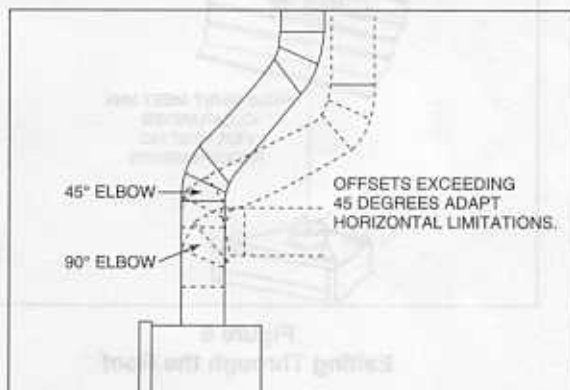

Figure 5
3. Using Elbows. Elbows exceeding 45 degrees from the vertical shall be considered horizontal and therefore adapt horizontal run limitations. See Figure 5.